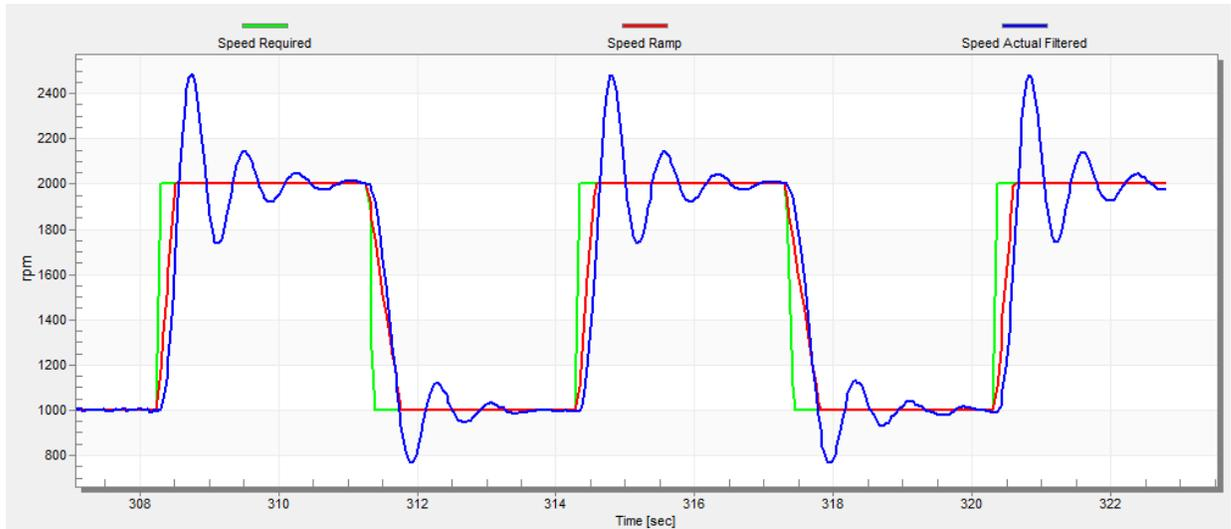

Figure 35. Speed controller response— $SL\_Kp$  value is low, Speed Actual Filtered greatly overshoots
- The “SL\_Kp” value is low, the “Speed Actual Filtered” greatly overshoots, and the long settling time is unwanted (see Figure 35).